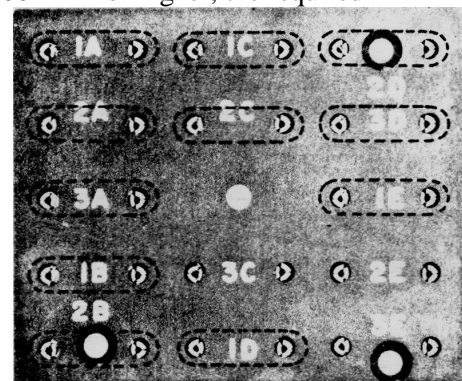

Figure 3-6. Crystal socket locations
a. Selection of Crystals. The crystals supplied in Crystal Unit Set, Quartz CK-31/FRC-93 cover the frequency ranges of 3.4 to 5.0 MHz and 6.5 to 30 MHz. Figure 3-6 shows crystal socket locations. Select these crystals as follows:
(1) If the lower edge of the desired 200-kHz band is 11.8 MHz or less, the required frequency is equal to the lower edge of the desired band plus 3.155 MHz. For example, if the desired band is 4.0 to 4.2 MHz, 4.0 MHz plus 3.155 MHz equals 7.155 MHz.
(2) If the lower edge of the desired 200-kHz band is 12.00 MHz or higher, the required
crystal mounting board and a front panel switch to allow selection of either board. The crystal-mounting board for extra-band operation is located on top of the chassis. If amateur band operation is not needed, extra-band crystals may be substituted in the crystal-mounting board under the chassis. BE SURE the crystals are plugged into appropriate sockets according to table 3-2 and figure 3-6. The transmitter can be operated at other frequencies outside the specified amateur bands or at other 10-meter frequencies by plugging the proper crystals into the mounting boards. Mark the desired lower band edge information on the white card in the BAND switch windows. Make sure this information is marked in the appropriate switch positions.